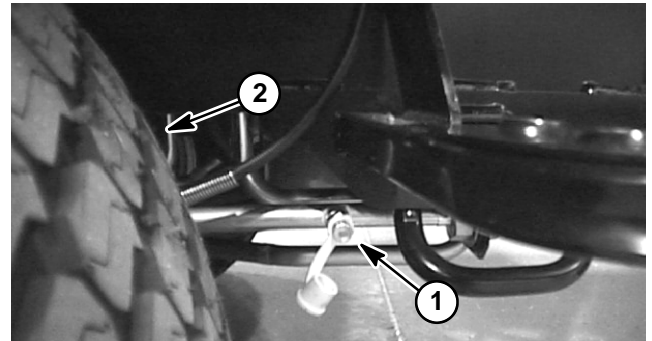
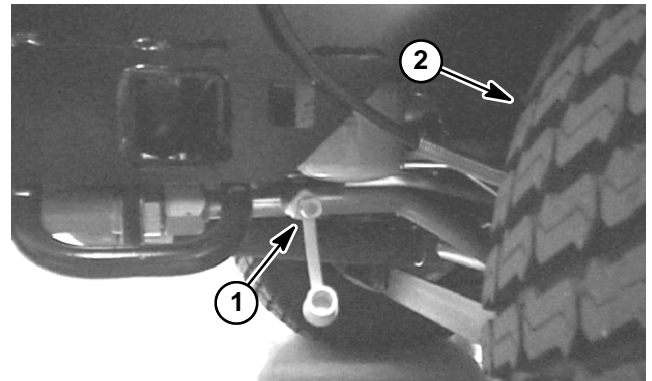

Figure 27
Figure 28
1. Make sure hydraulic oil is at normal operating temperature by operating the machine under load for approximately ten (10) minutes. Make sure the hydraulic tank is full.
3. Connect a 10,000 PSI (700 bar) pressure gauge to traction circuit test port for function to be checked: forward (Fig. 27) or reverse (Fig. 28).